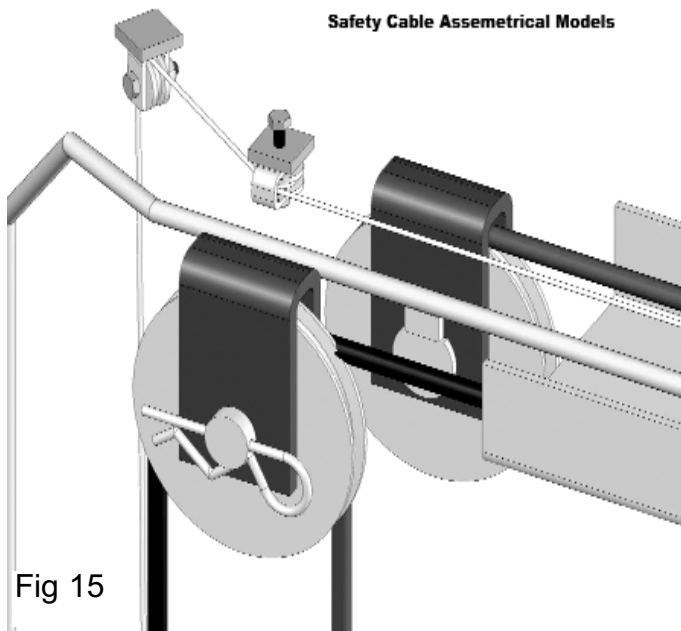

Fig 15
4. Route the cable through the pulley and across the lift. (Fig 15 & 16)